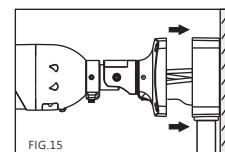
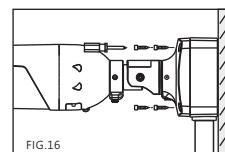

FIG.15
FIG.16
- C. Use the screws (M5.0x12L) included in the box to secure the camera to the junction box, and tighten the screws (FIG.15&16).
- D. 使用所附的螺絲 (M5.0x12L) 將攝影機鎖附到接線盒底座上，並鎖緊螺絲 (FIG.15 & FIG.16)。